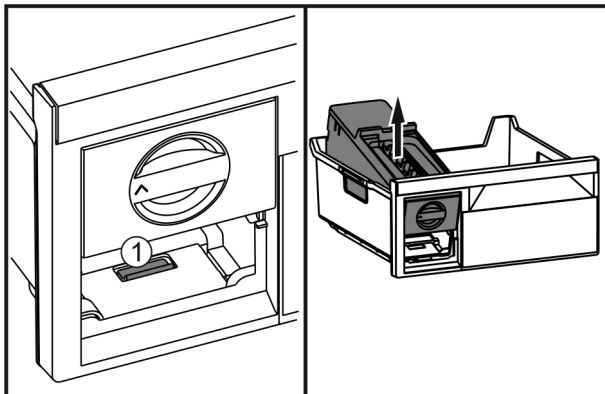

Fig. 54
- Press the lug Fig. 54 (1), lift up the EasyTwist-Ice at the back and take it out of the freezer drawer.